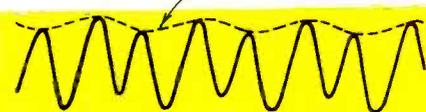
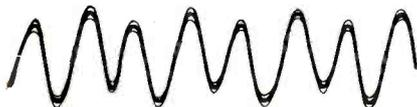

Fig. 5—38-kc voltage at input to demodulating diodes may look like this. Residual 19-kc signal is common and usually harmless.
Fig. 6—Unsynchronized 38-kc signal wobbles and flutters erratically, like this. It should be adjusted to look like Fig. 5.
Once oscillation has been established, this sine wave can be observed all the way along through amplifiers and doublers, right up to the demodulation circuit, where the waveform will appear as in Fig. 5. The inequality of adjacent
2. In nonoscillator types, 38 kc should be visible. In oscillator types, you should see a waveform similar to that of Fig. 5. (It may not be truly 38 kc, but some frequency close to it.) In the latter case, the waveform may look like Fig. 6. The fuzziness showing above the primary waveform is the small component of synchronizing pilot signal not being locked by the oscilloscope at the fundamental rate of local oscillation.
3. Tune the slugs of every tuned circuit but the 67-kc filter for a maximum, locked waveform. In nonoscillator types, the 38 kc will pass through a definite peak as each tuned circuit is varied. For oscillator types, tune the oscillator tank circuit first, until the fuzziness shown in Fig. 6 disappears. This indicates oscillator "lock-in". Then tune the 38-kc doubler tuned circuit for an increase in 38-kc amplitude. Finally, tune any earlier 19-kc traps or tuned circuits closer to the input. It may be necessary to retune the oscillator itself as the other circuits are peaked, to bring it back into synchronization, as some grid-plate tuned-circuit combinations are highly interdependent. This is even more true in transistor multiplex circuitry.